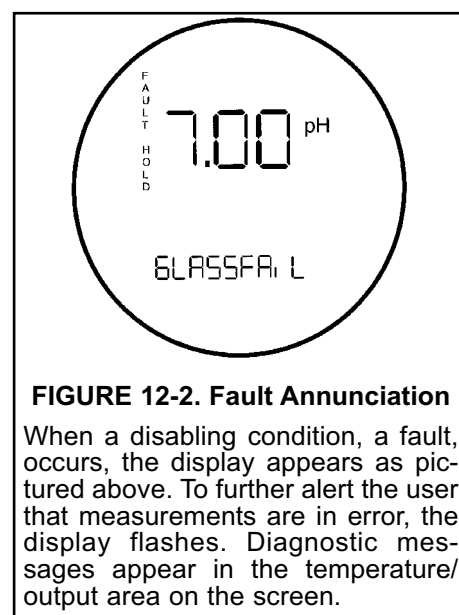

FIGURE 12-2. Fault Annunciation
3. A fault message appears alternately with the temperature/output display. See Figure 12-2. See Section 12.4 for an explanation of the different fault messages and suggested ways of correcting the problem.